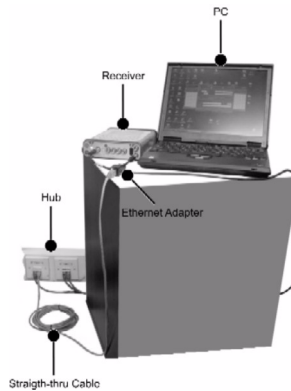

Figure 1-7. Receiver on LAN – Hardware Setup]
8. Insert the Ethernet adapter's 7-pin connector into the ETHR port of the receiver. Connect the opposite end of this adapter with the Ethernet straight-through cable (either of its ends can be used). Plug the second end of the straight-through cable into the appropriate Ethernet port on your LAN hub or switch (Figure 1-7 on page 1-18).